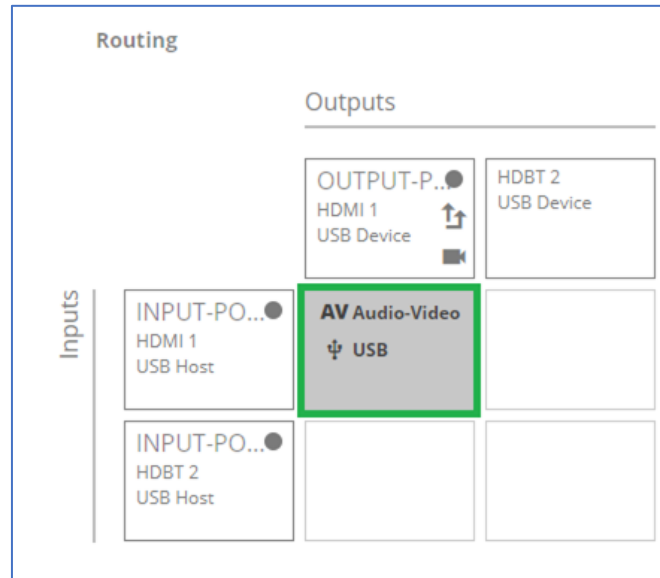
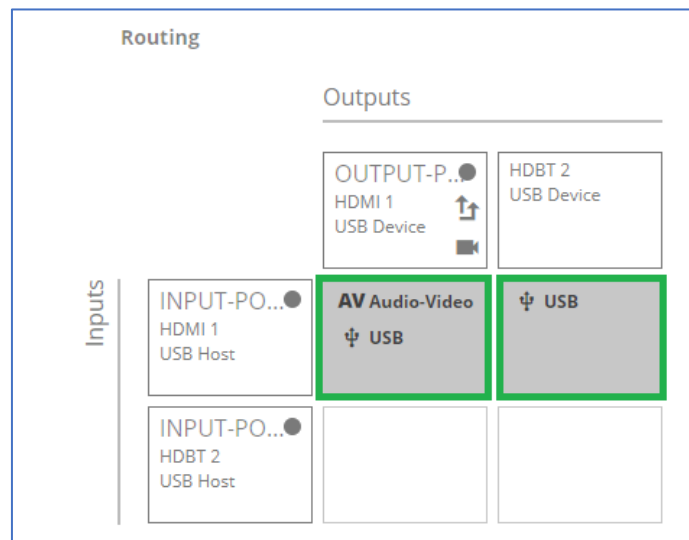

Figure 14: Selecting Local Active Host for Connection to Local USB Devices Only
Figure 15: Selecting Local Active Host for Connection to both Local and Remote USB Devices
Outputs: 1xHDBT, Mirrored 1xHDMI	Output Devices: 3xUSB-A (local) + Rx USB devices (remote)  USB local devices are always connected to active Host. Remote USB devices connection to local active Host is configurable (see <a href="#">Figure 14</a> & <a href="#">Figure 15</a> ).
Outputs: 1xHDMI	Output Devices: 3xUSB-A (local) + Tx USB devices (remote)  USB local devices are always connected to active Host. Remote USB devices connections to local active Host is configurable (see <a href="#">Figure 14</a> & <a href="#">Figure 15</a> ).
2. Click the Input/Output cross-point **HDMI 1 USB Host** shown in (see Figure 14).
- Click the Input/Output cross-point **HDBT 2 USB Host** in addition to selected **HDMI 1 USB Host** (see Figure 15).